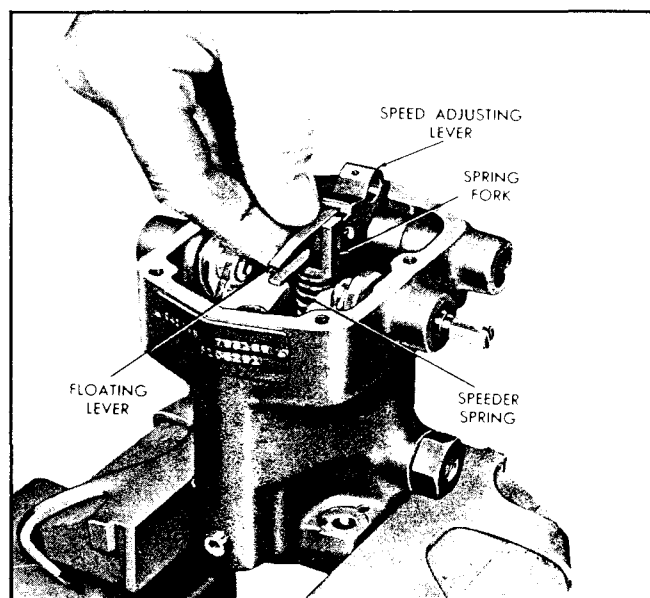

Fig. 9 - Removing Speed Adjusting Lever, Floating Lever, Spring Fork, Speeder Spring and Pilot Valve Plunger Assembly
11. Lift the speed adjusting lever, floating lever, spring fork, speeder spring and pilot valve plunger as an assembly from the governor housing as shown in Fig. 9.